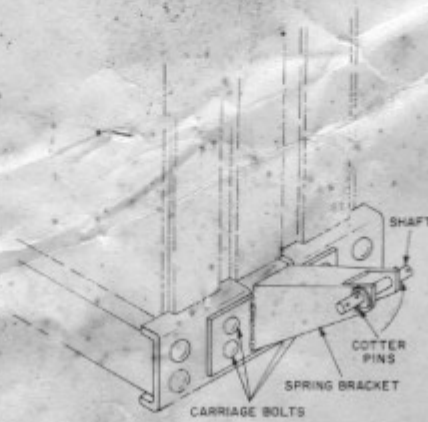

Figure 1: Spring Bracket Installation
1. Attach spring bracket to center of front bumper with carriage bolts, lock washers, and nuts. See Figure 1.